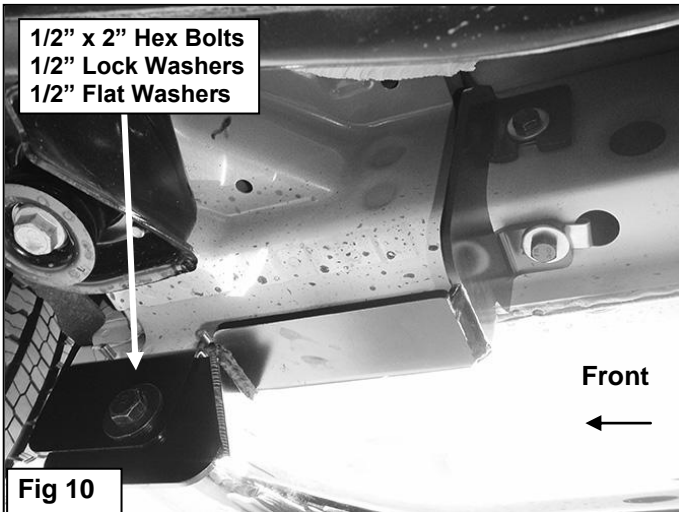

Fig 10
6. Skip the third mounting location and move to the last location at the back of the cab, (**Figure 9**). Repeat **Step 4** to install the passenger side rear Mounting Bracket, (**Figure 10**).
7. Select the passenger/right Sidebar. Carefully position the Sidebar up to the front and rear Mounting Brackets. Attach the Sidebar to the Mounting Brackets with (2) 1/2" x 2" Hex Bolts, (2) 1/2" Lock Washers, and (2) 1/2" Flat Washers, (**Figures 10 & 12**). Snug but do not tighten at this time.